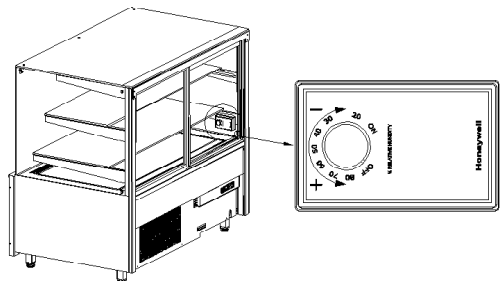

Fig.7 Higrostat
- In display cases equipped with humidistat (it does not refer to Carel therm.) the desired humidity inside the device can be set using the control knob Fig. 7 (p. 16). In the temperature range from 10°C to 15°C air humidity can be controlled in the range from 30% to 80%.